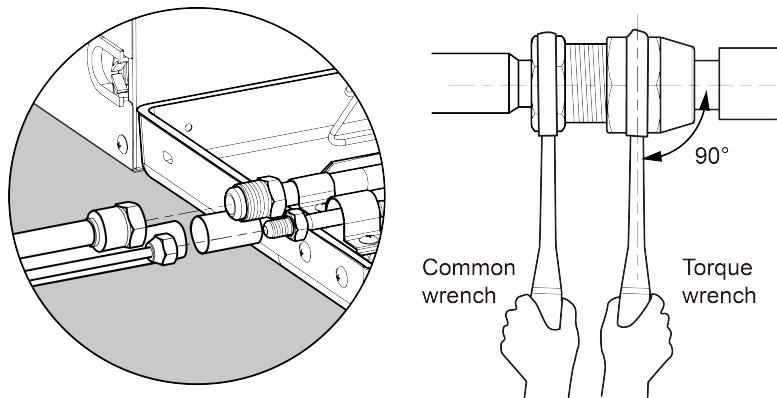

Fig.26
- (1) Conform to the following principles during piping connection: Connection pipeline should be as short as possible. The height difference between indoor and outdoor units should be as short as possible. Keep number of bends as little as possible. The radius of curvature should be as large as possible.
- (2) Weld the connection pipes between indoor and outdoor unit. Please strictly conform to the requirements for welding process. Rosin joints and pin holes are not allowable.
- (3) When laying the pipes, be careful not to deform them. The radius of bending parts should be more than 200mm (7-7/8inch). The pipes cannot be repeatedly bent or stretched, otherwise the material will get harder. Do not bend or stretch the pipe over three times at the same position.
- (4) Please use a torque wrench to connect union nut on the indoor unit. See Fig.26.